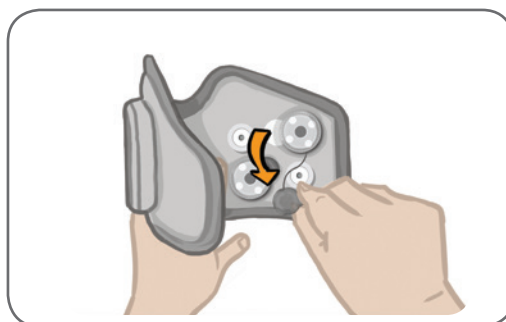

Figure 11-9: Removing the Used Electrode Bases
3. Remove the used electrode bases from FS Cuff. See Figure 11-9.